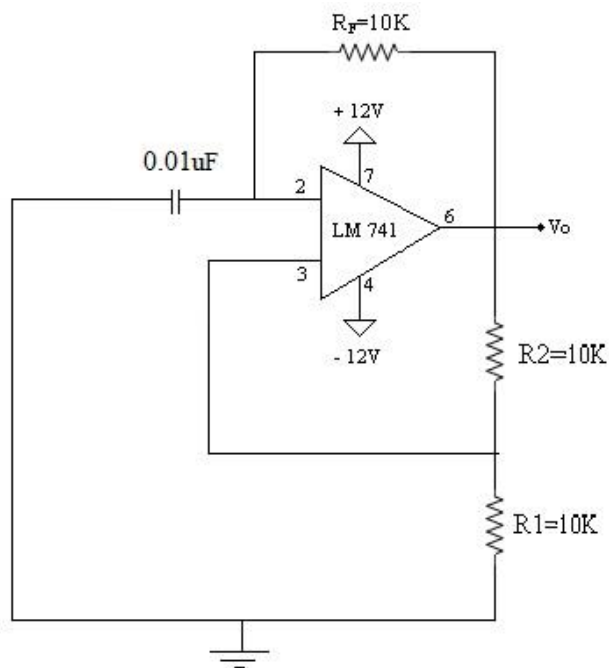

Figure 1
- Connect the circuit as shown in figure:1
1. Connect the circuit as shown in figure:1